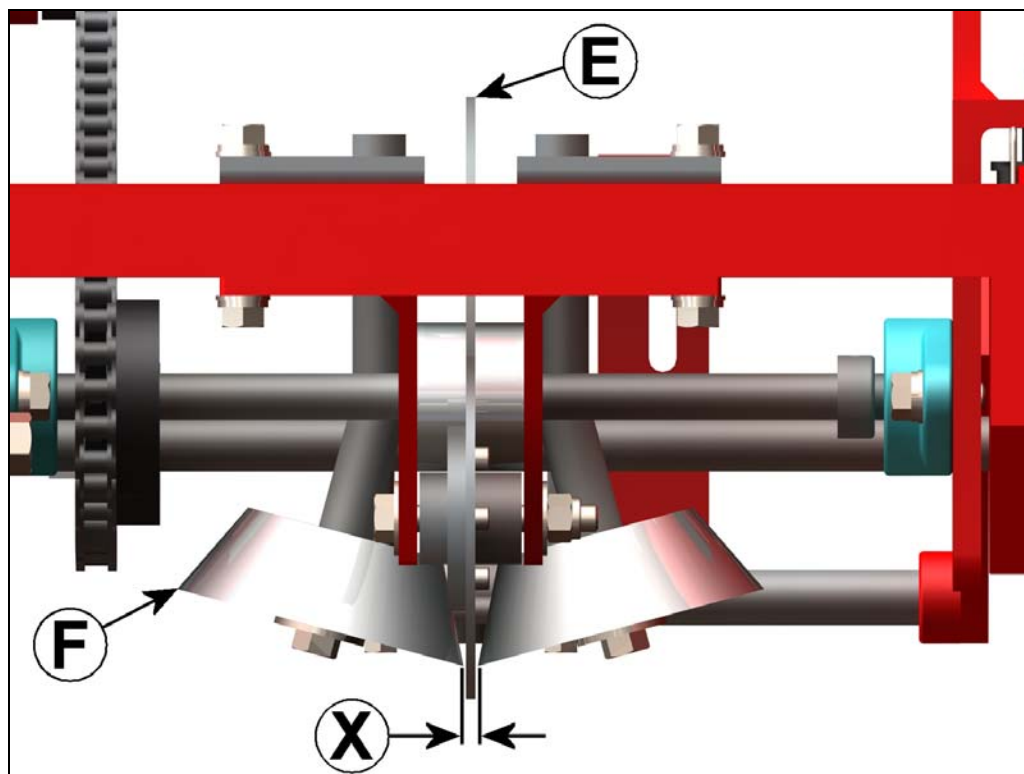

Figure 3 Setting Compression Blade Gap
1. Loosen the compression blade adjustment arm securing bolts (G).
2. Lower the compression blade adjustment arms (H) until the compression blades (F) are 1/32" to 1/16" off the slab.
3. Loosen the compression blade bracket securing bolts (J) and adjust the compression blades (F) until distance X is approximately 1/32" less than the measured width of the joint (Figure 3). Tighten the securing bolts (J) and verify distance X. Table 1 gives a guide to compression wheel gap settings for nominal seal sizes.
4. If necessary, the discharge blade (E) may be adjusted from side to side. Center the discharge blade (E) between the compression blades by loosening the discharge blade setscrews and sliding the discharge blade on the shaft until it is centered. Tighten the setscrews and check the adjustment.